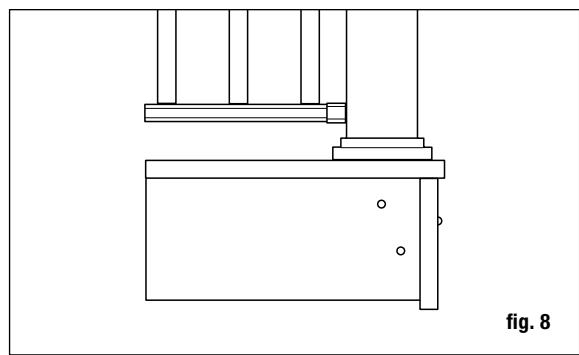

fig. 8
Step 3 Position, plumb with a level, and clamp the railing post on the interior face of the joist. Plumb again. The 4x4 railing post should be bolted to the inside of the joist using two 1/2" x 6" galvanized carriage bolts. Corner posts use a third carriage bolt inserted through the adjacent joist (fig. 8).
Important: Do not notch the 4x4 railing posts. Notching will reduce the strength of the post and could result in railing collapse or failure (fig. 8).
Step 3 Position, plumb with a level, and clamp the stair railing post on the interior face of the stringer. Plumb again. The 4x4 stair railing post should be bolted to the inside of the stringer using two 1/2" x 6" galvanized carriage bolts. Corner posts use a third carriage bolt inserted through the adjacent joist (fig. 8). Ground level posts should be set in concrete.